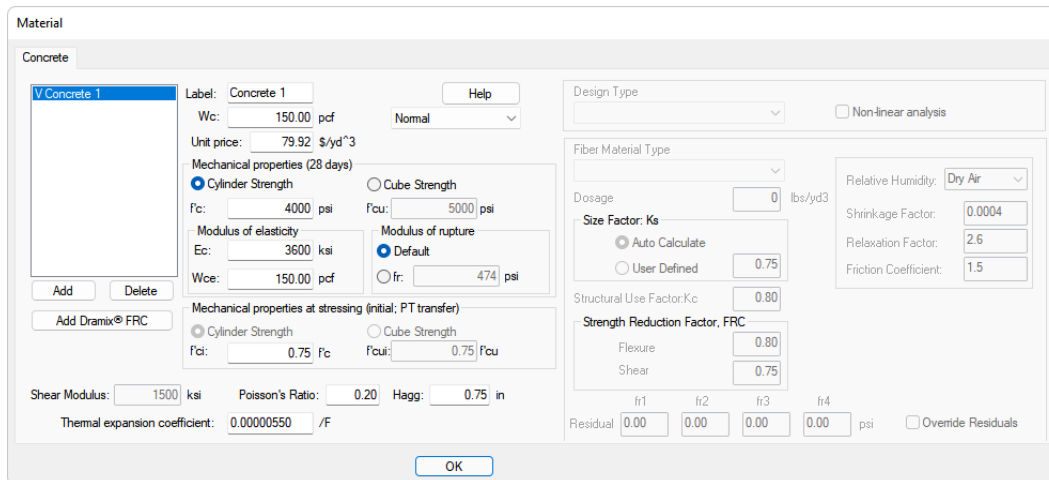

FIGURE 2-7
- Go To *Criteria* → *Material Properties* and click on the **Concrete**  icon. This will open the *Material* window shown in **FIGURE 2-7**.